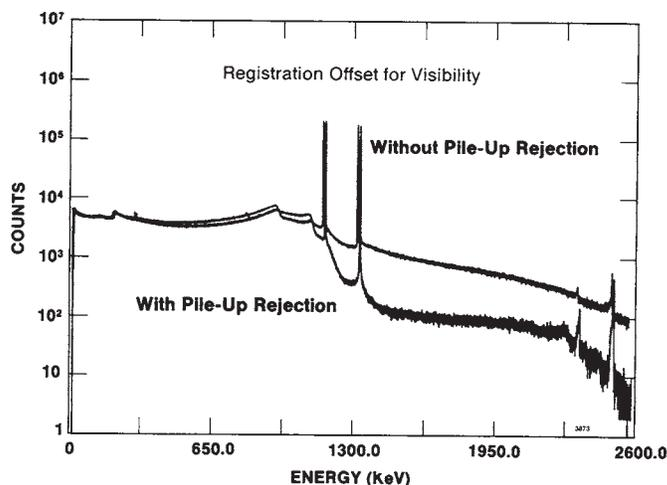

Fig. 3. Demonstration of the Effectiveness of the Pile-Up Rejector in Suppressing the Pile-Up Spectrum. See Pulse Pile-Up Rejector specification.
An efficient pile-up rejector is incorporated in the Model 671 spectroscopy amplifier. It provides an output logic pulse for the associated multichannel analyzer to suppress the spectral distortion caused by pulses piling up on each other at high counting rates (Fig. 3). The fast amplifier in the pile-up rejector includes a gated baseline restorer with its own automatic noise discriminator. A multicolor pile-up rejector LED on the front panel indicates the throughput efficiency of the amplifier. At low counting rates the LED flashes green. The LED turns yellow at moderate counting rates and red when pulse pile-up losses are >70%.
**Pulse Pair Resolution** Typically 500 ns. Measured using the 60Co 1.33-MeV gamma ray under the following conditions: 10% efficiency germanium detector, 4-V amplitude for the 1.33-MeV gamma ray at the unipolar output, 50,000 counts/s (Fig. 3).